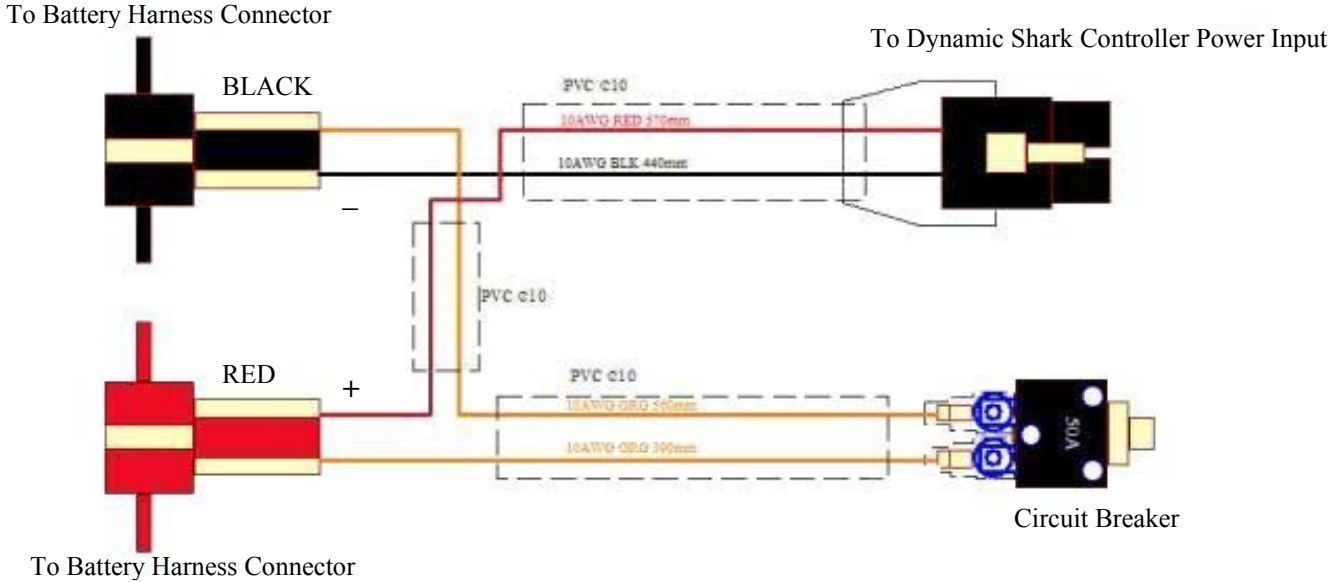

Figure 4. Power Harness
5. Unplug the battery harnesses from the power harness. Measure the voltage across the battery connectors on the power harness. Place the red meter lead on the positive pin of the front red connector mounted to the frame. Place the black meter lead on the negative pin of the rear black connector mounted to the frame. Refer to figure 4 on page 13.
- Place the red and black meter leads on the two outside pins of the M2 motor connector on the controller as shown in figure 4.